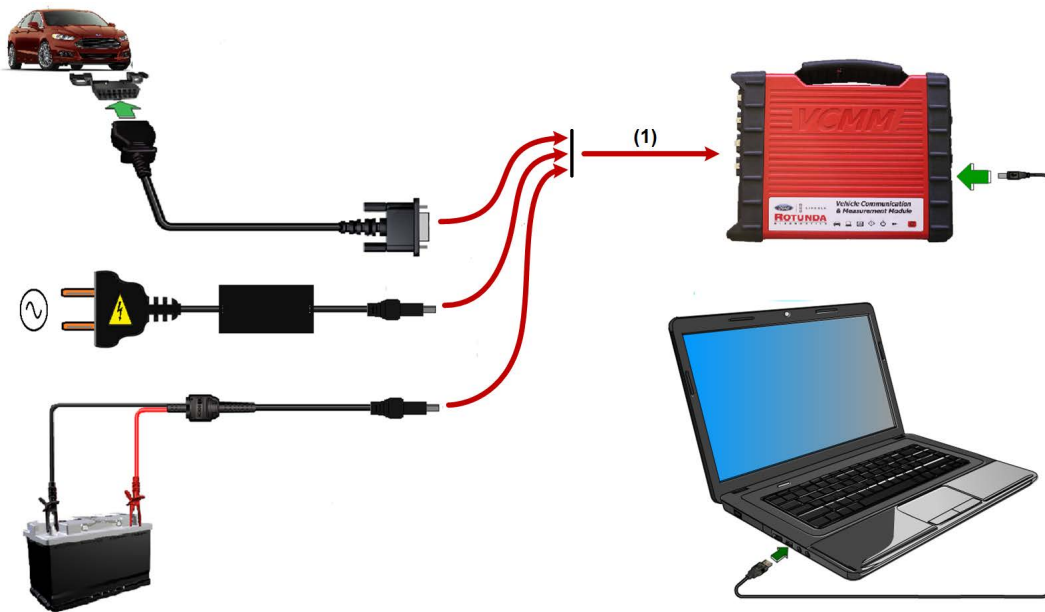

Figure 3
2. Make sure the VCMM is connected to a PC using the USB cable and external power (see Figure 3).